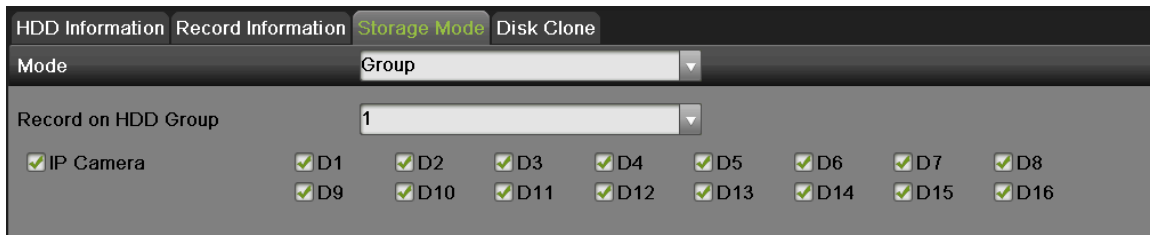

Figure 198 Group Mode Settings Menu
3. Select the Mode to Group, as show in **Figure 198**.